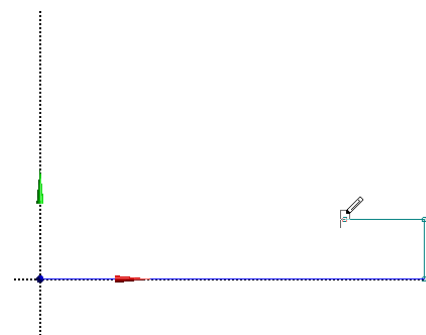

Figure 3-25 Specifying the startpoint of the line 4
13. Move the cursor close to the end point of line3; the symbol of Coincident Point constraint (**P**) is displayed. Click at that point to specify the start point of line 4, as shown in Figure 3-25.